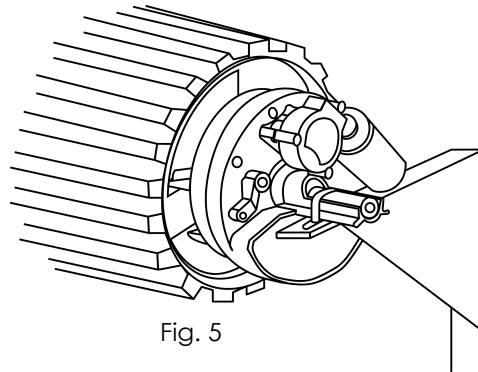

Fig. 5
- 2.7 Re-position the door shaft on the door support bracket and fit the specially supplied U-bolt (Fig. 5) over the axle / drive assembly and tighten firmly.